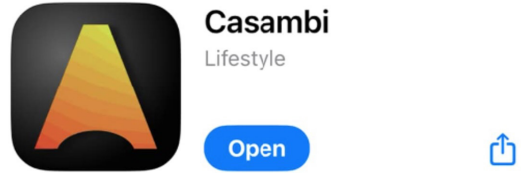

FIG. 7
1. This installation requires **Casambi's official mobile application**. Download and install the app shown (Fig. 7) before proceeding with any dimmer configuration.